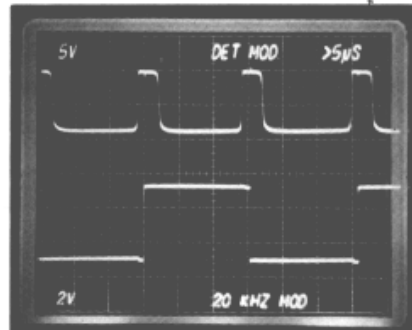

Figure 6-2. Detected Mod/20 kHz Reference Pulse Timing
4. Adjust A202R89 for a symmetrical waveform as shown in the upper trace of Figure 6-2. (All pulses in the train should be of equal duration.)